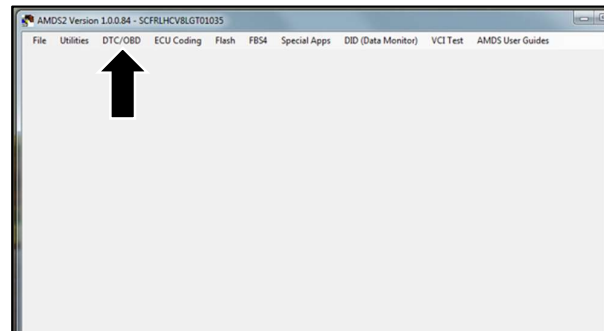

Figure 5
8. Click the "DTC/OBD" button (refer to Figure 5).